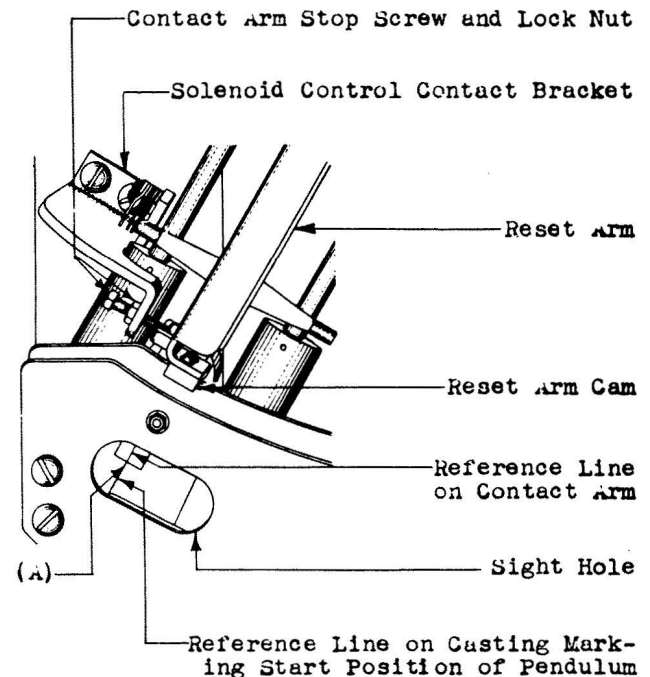

Fig. 8 - Reference Line on Contact Arm Coinciding with Reference Line of Casting with Pendulum in Start Position
2.07 Start Position of Pendulum - Fig. 8 (A) - With the pendulum in contact with the hold magnet, the reference line on the contact arm shall coincide accurately with the reference line on the casting marking the start position of the pendulum when the pendulum and the contact arm are in the start position. Gauge by eye.